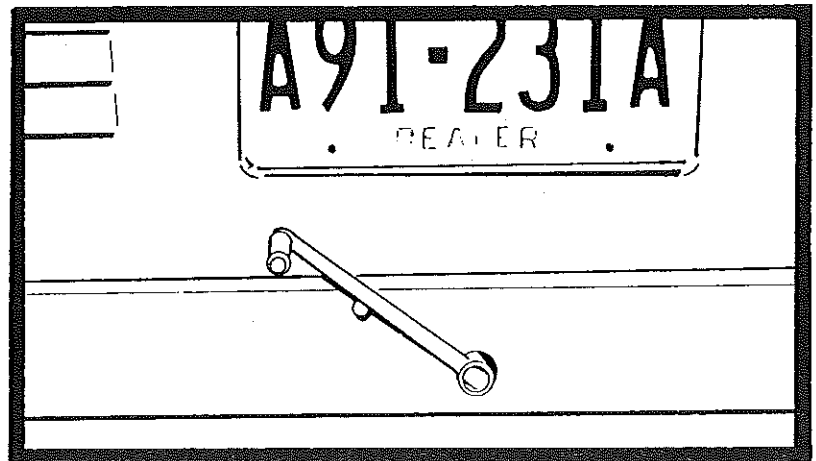

FIGURE 5
11. On the Roanoke series trailers, it will be necessary to engage the safety latch (located on the rear bumper adjacent to the crankshaft) by pushing in on the latch, thus allowing the spring-loaded pin to pop out. The crank handle will rest against it once the top is completely raised. See Figure 5.